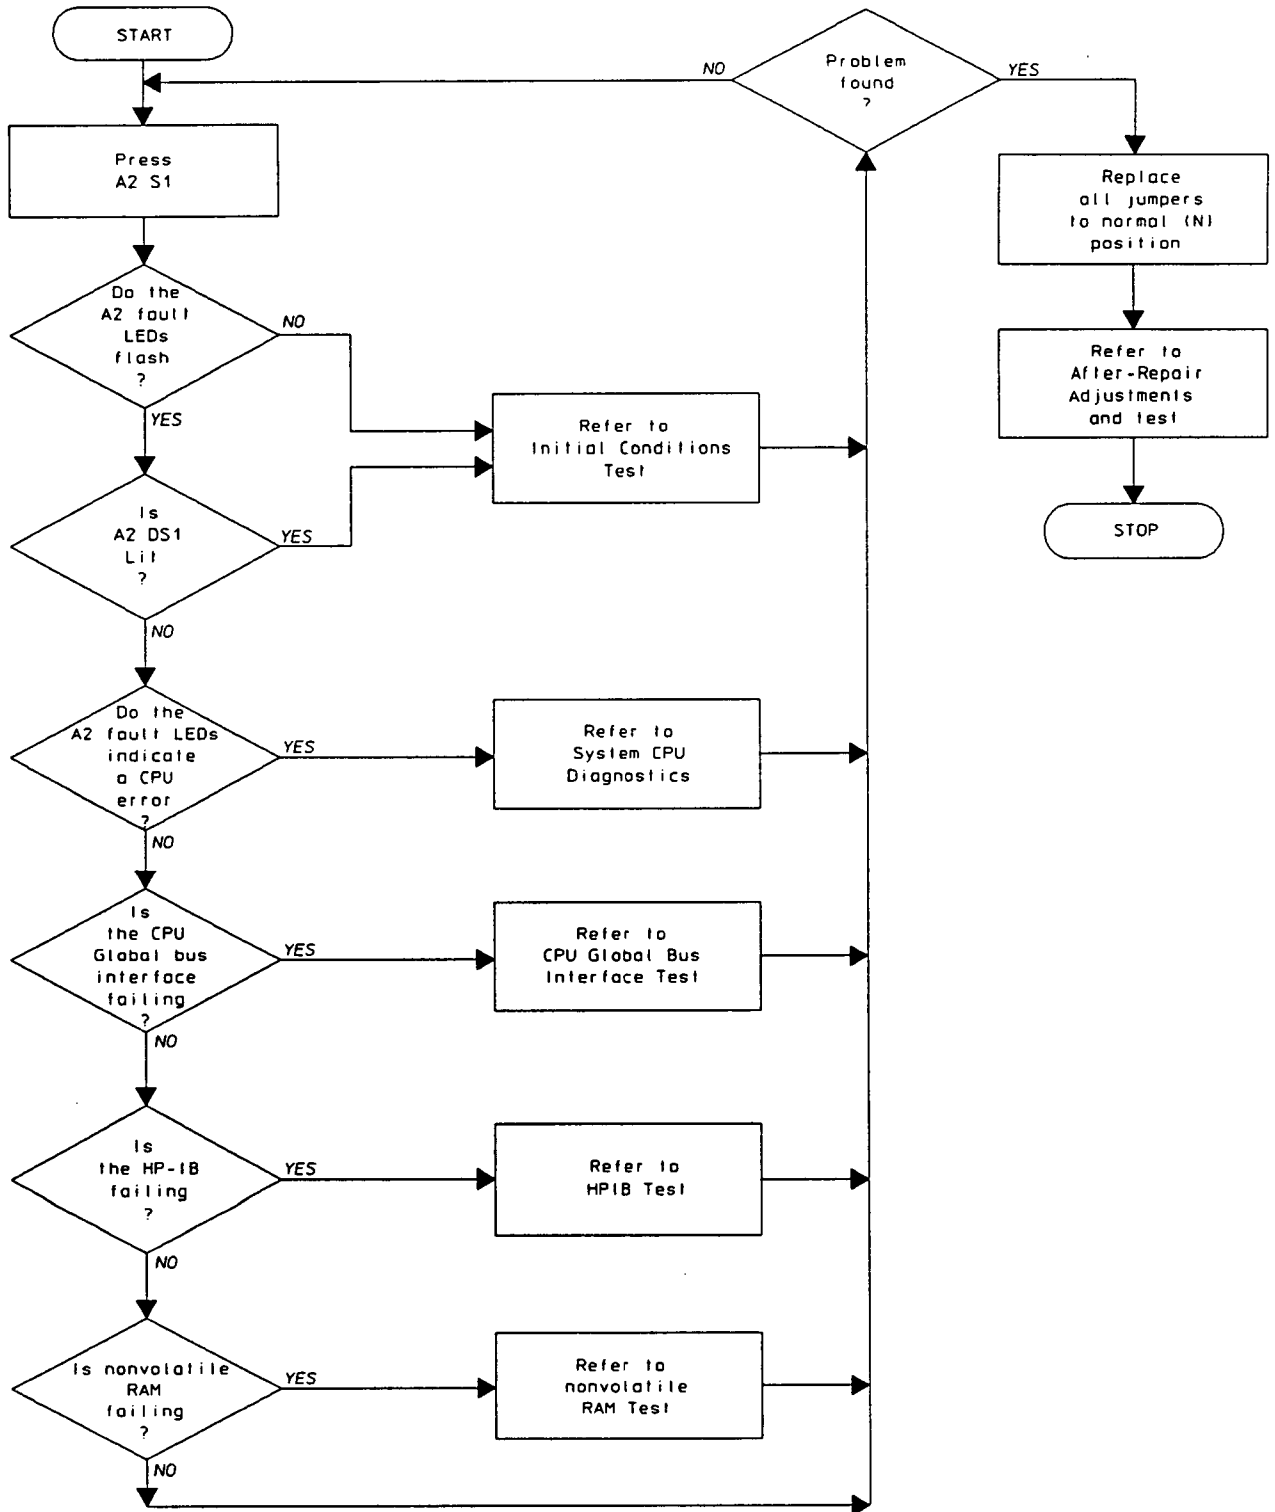

Figure 8-8. System CPU/HP-IB Troubleshooting Procedure Diagram
- Start** Start troubleshooting by using figure 8-8. This procedure diagram describes the best order to perform the troubleshooting tests based on the symptoms observed.